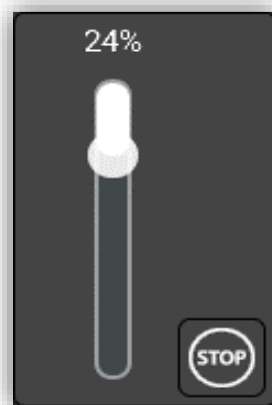

Figure 51. 1-Button Control – Shutter Pop-up
- **Slider** [disabled / enabled]: if enabled, the central indicator will behave as a button that will open a pop-up, similar to the one mentioned for the one-button shutter control (see Figure 51), which will allow precise control of the shutter position.